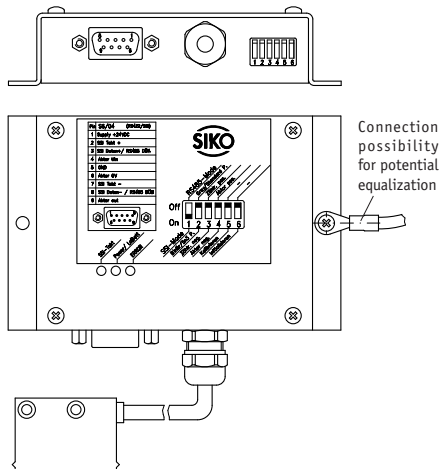

Fig. 1: Mounting / connections
the lateral mounting tabs / bores. (s. Fig. 1).
- To ensure flawless functioning of the device, expert connection to potential equalization is indispensable. To enable this, each a ring eye for connecting a max. 2.5mm² cable, alternately a tab as well as a tooth lock washer are enclosed in the delivery. The connection should be as short as possible (see fig.1).